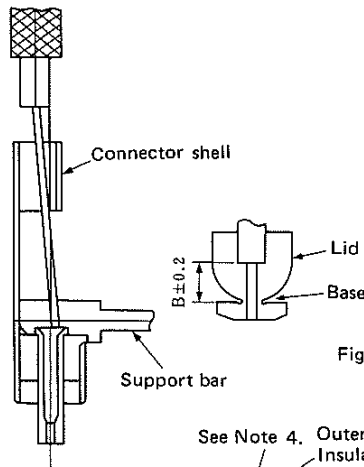

Fig. 3
- (1) Pass the cable center conductor through the connector shell, as shown in Figure 3. Then insert the center conductor into the hole in the male terminal while making sure that the connector shell passes between the outer conductor and the cable insulation. Insertion will be completed when the cable insulation reaches the section of dimension "B" specified in the table below. Note 4: The end of the outer conductor must be uniform with respect to the connector shell.